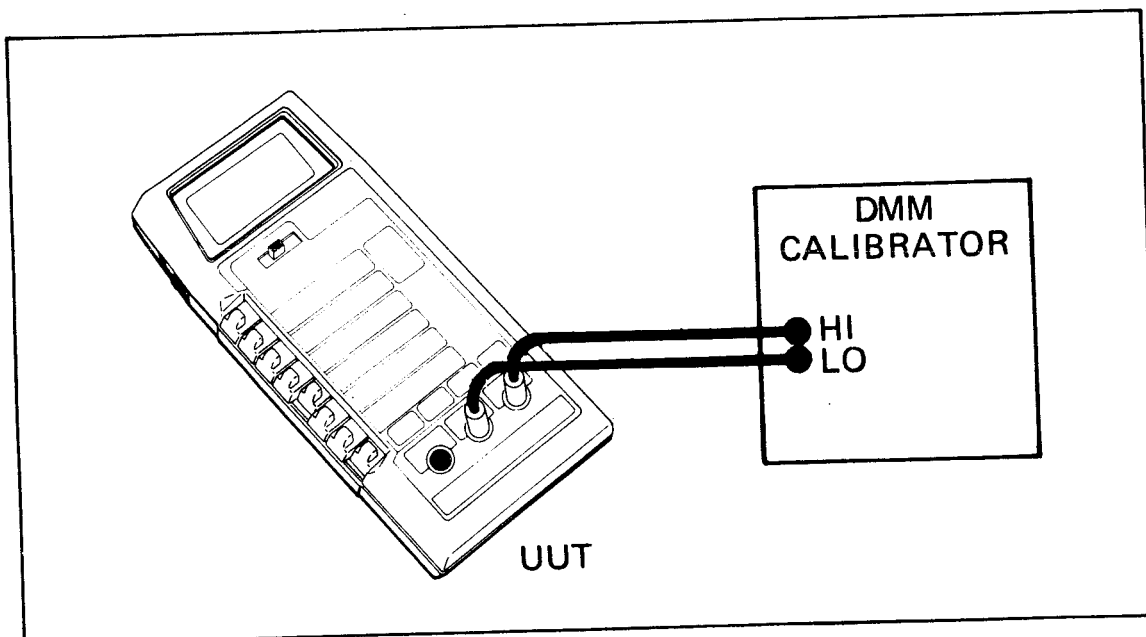

Figure 4-3. General Equipment Connection
3. Connect the equipment as shown in Figure 4-3.
1. Connect the equipment as shown in Figure 4-3 and release the mA-°C-V/ Ω /S function switch.
2. Connect the equipment as shown in Figure 4-3.